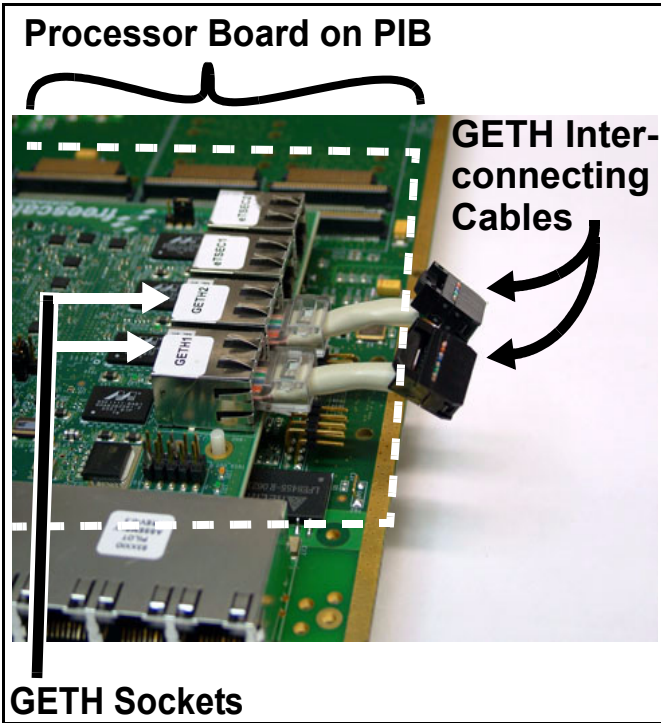
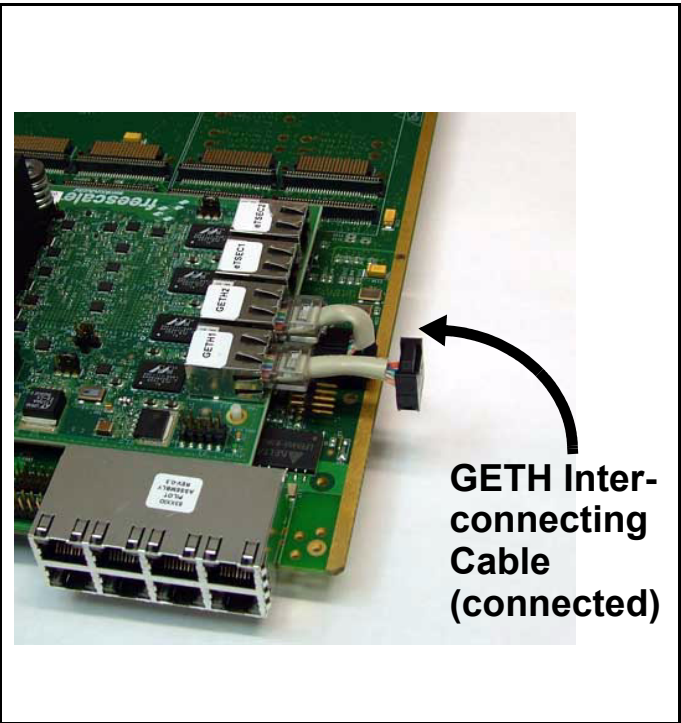

Figure 2-7. Connect GETH sockets on processor board to GETH pins on PIB
Figure 2-8. Connect GETH interconnecting cables to sockets on PIB
6. If you will be working with a back plane, and wish GETH signals to traverse either the back plane connection, or the front plane optical connection, connect two GETH sockets on the MPC8568E MDS Processor Board with sockets on the PIB board as shown in Figure 2-7 and Figure 2-8. The only communication connection between boards connected to a back plane is via the GETH signals.